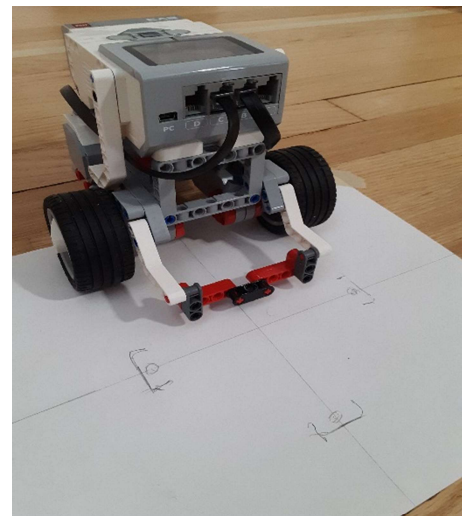

Figure 1 Setup for measuring error in rotating 90 degrees. Note, the robot axle should be placed over the center cross.
- i. Hint, to measure the error in the rotation you can use a setup like the one shown in Figure 1. Note, that the center of rotation is between the robot's axles so you will need to line that up with the cross drawn on the paper.